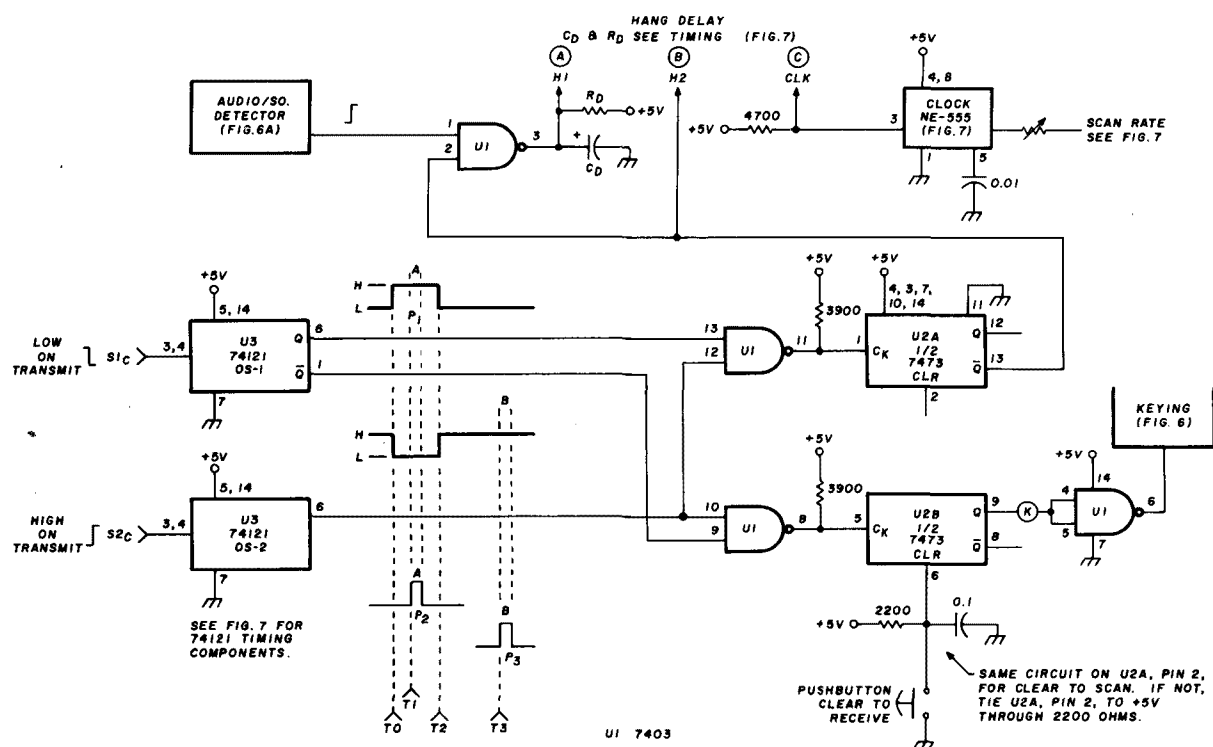

fig. 5. Push-to-talk and push-to-receive and scan/halt control circuits.
(fig. 4). You're then in manual mode regardless of the states on H1 and H2 or whether the control (fig. 5) is in SCAN or HALT.
As the PTT switch is closed, a pulse generated from OS-1, a 74121 one shot, (fig. 7), is directed to two gate inputs. You can vary the width of this pulse to suit yourself as in fig. 7, but I've found that 1 second is a nice average number with which to start. When the PTT switch is released, another much shorter pulse is generated by OS-2. If the switch is released within the 1-second timeframe of  $P_1$  (fig. 5), the high of  $P_1$  and  $P_2$  triggers U1 pin 11 low for a  $P_2$  wide pulse (i.e., a short blip on the PTT switch).
fig. 6. Input-output processing circuits. At (A) is a voltage doubler to handle the TTL gate input at U1 pin 5 (fig. 5). Component values have been chosen for maximum audio fidelity consistent with reliable halts during scanning. A keying system is shown in (B). U1, part of a 7403, will safely handle currents of 16 mA, but the relay circuit is recommended. CR4 is one of the 1N4000 family (approximately 50 volts at 1 ampere).
For long-winded souls on quick-natured repeaters, you can even hook in an automatic timer to control the end of transmission. Several have appeared lately, so I won't go into any specifics here. Just wire the timer so that the act of going to transmit (U2A pin 13 low) triggers the timer on; the timer running out places a pulse low on U2B pin 6 (for a clear to receive command). See fig. 5. Wire so that a shorter conversation both resets to receive and resets the timer. Set the timer duration for about 10 seconds less than that of your local machines.
The RC network on H1 in figs. 5 and 7B puts a hang effect on the action of H1. Keep  $R_D$  within the limits shown and change  $C_D$  to keep the H1 line low between voice peaks or words. This is the alternative to running a wire from the radio to show a no-squelch condition. It also rejects any dead carriers with no modulation. If you use the wire, limit the voltage excursion to TTL levels and have a high for a station on frequency.